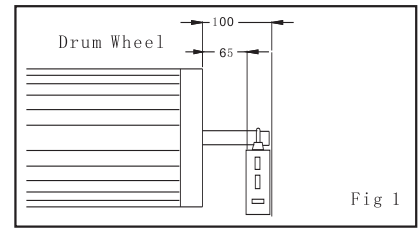
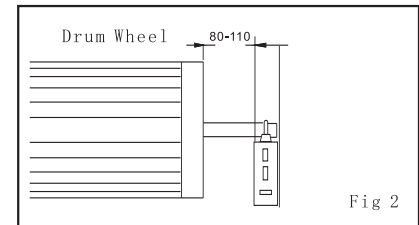

Fig 1
Fig 2
Minimum side room of 65mm from the face of the door drum wheel to the inside edge of the door support bracket and 100mm to the outside are required to install the opener (see Fig 1). The ideal side room space to fit the opener is respectively of 80mm and 110mm as shown in Fig 2.
- Select Left or Right hand installation (from inside looking out) by checking Dip Switch No. 1. (On for Right Hand; Off for Left Hand, see **Figure 1**).
2.3 Setting Top Limit: find the Limit Setting Shaft that is directly under the Green Limit Setting Lamp (see **Figure 2**), push inwards gently and